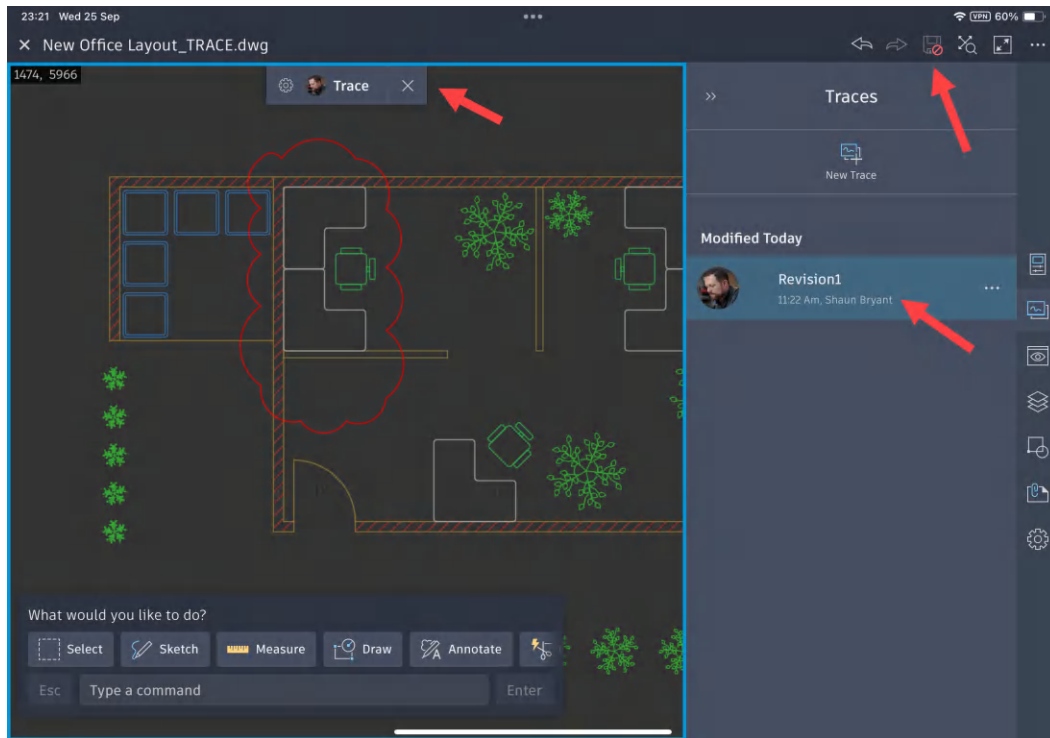

Figure 16.16: The Traces panel in the AutoCAD mobile application
5. Upon clicking on the traces icon, the **Traces** panel will expand into the iPad screen area, and any traces attached to the DWG file will be displayed in trace mode, as shown in *Figure 16.16*.